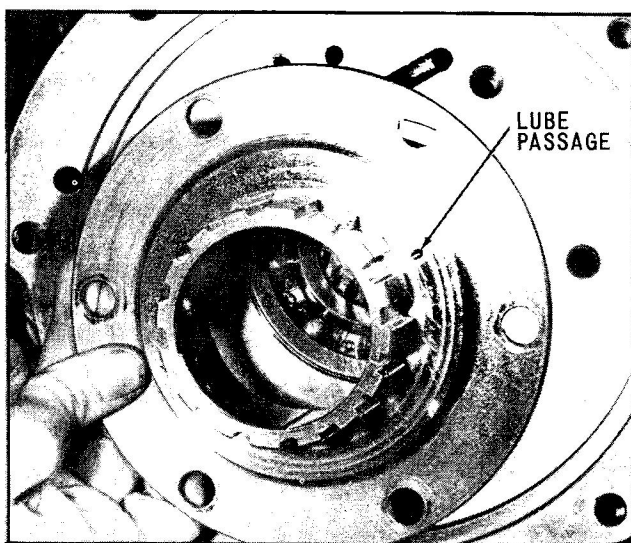
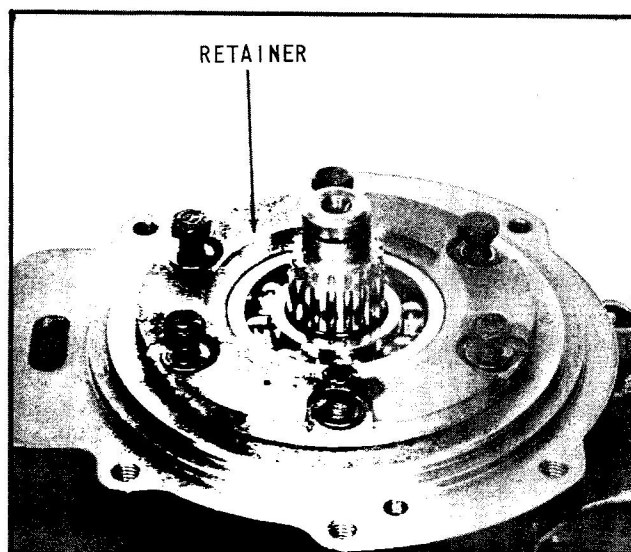

Fig. 57 Assemble Bearing Retainer (2 and 3 to 1 Ratio)
Fig. 58 Assemble Bearing Retainer (1.5 to 1 Ratio)
2. Install bearing retainer behind bearing and replace six 7/16-14 x 1 hex head bolts and lock washers, (Fig. 58). Lock washers are not used on 2 and 3 to 1 units, (Figs. 57 and 29).